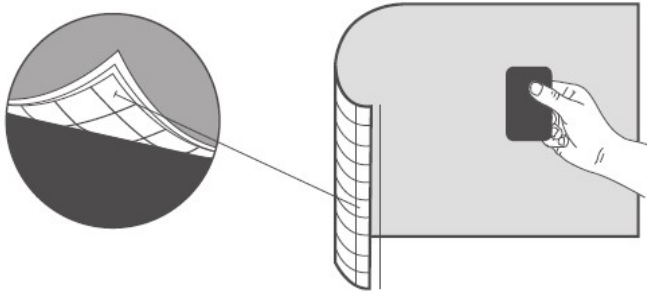

Figure 1. 3M™ Comply™ Air-Release Channels
- Easy Application — 3M™ Comply™ Adhesive technology virtually eliminates air bubbles, simplifying and speeding application (see Figure 1).